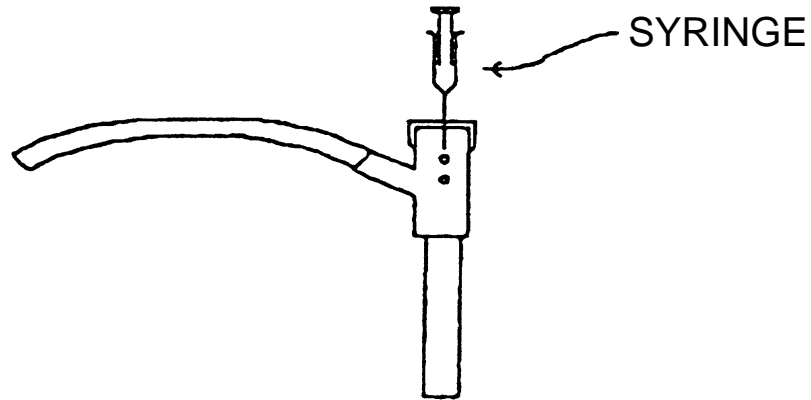

Figure A.1 Special Tube Set
| Figure A.1 Special Tube Set..... | A-5 | 6/99 |
- Air Bubble Test Tube Set Made From Special Tube Set. See Figure A.1 (4R2252), P/N 921-5001-680.